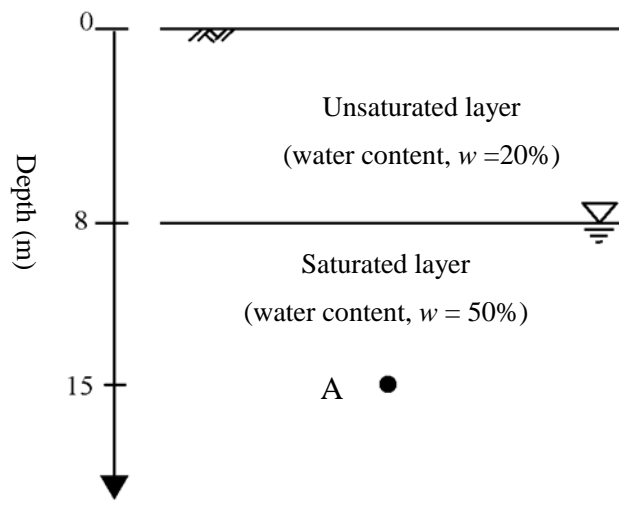

Fig. 1 Ground conditions
- (1) Figure 1 shows the ground conditions at a site of concern. The density of water is $w = 1,000 \text{ kg/m}^3$ and gravitational acceleration is $g = 9.8 \text{ m/s}^2$.
2. If the water content of the soil ground above the water table (unsaturated layer) was 20%, then find the wet bulk density of the soil ground above the water table. Assume that there is no change in the void ratio and the density of soil solids throughout the depth of the soil ground. For these parameters, use the values obtained in the previous question (1).
3. Find the total vertical stress, the pore water pressure and the effective vertical stress at the location A shown in Fig. 1.